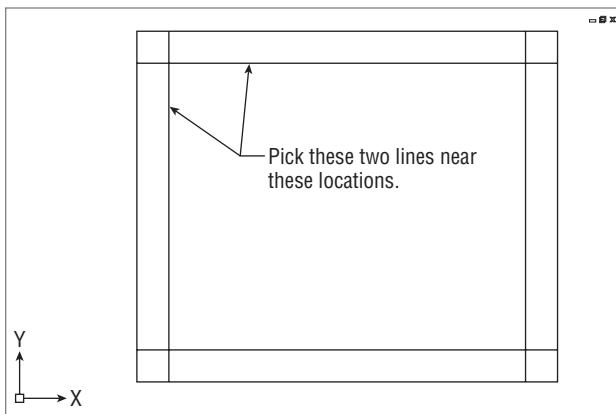
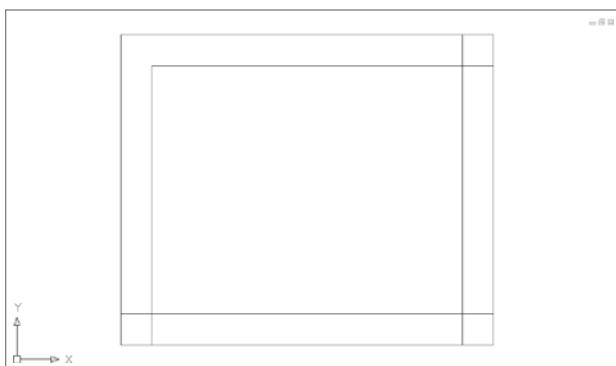

FIGURE 2.24 Pick two lines to execute the FILLET command.
FIGURE 2.25 The first cleaned-up corner
3. Move the cursor — now a pickbox — to the shape, and click two intersecting lines, as shown in Figure 2.24. The intersecting lines are both trimmed to make a sharp corner (see Figure 2.25). The FILLET command automatically ends.